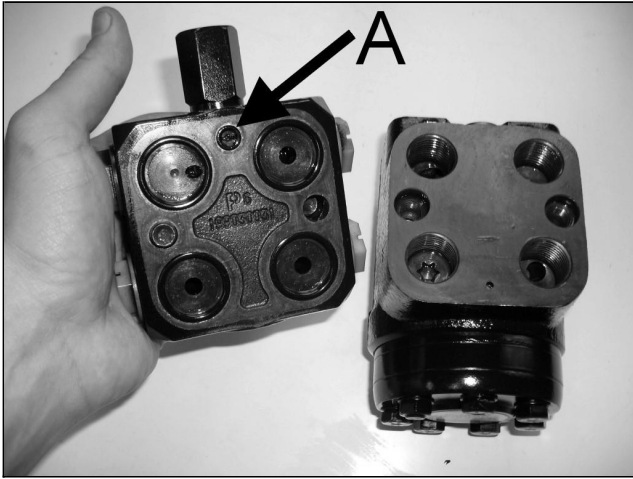

Fig.6
- act on the nut **C** in Figure 6 to bring the block **D** in light contact with the lever **E**.
Fig. 6 shows the detail **A** of the branch of the load-sensing of the steering unit, which is used for piloting the valve by the steering unit. When we act on the steering wheel a small amount of oil pass through the passage and goes to operate the load-sensing valve that picks up from the hydraulic system the oil required to operate the steering.